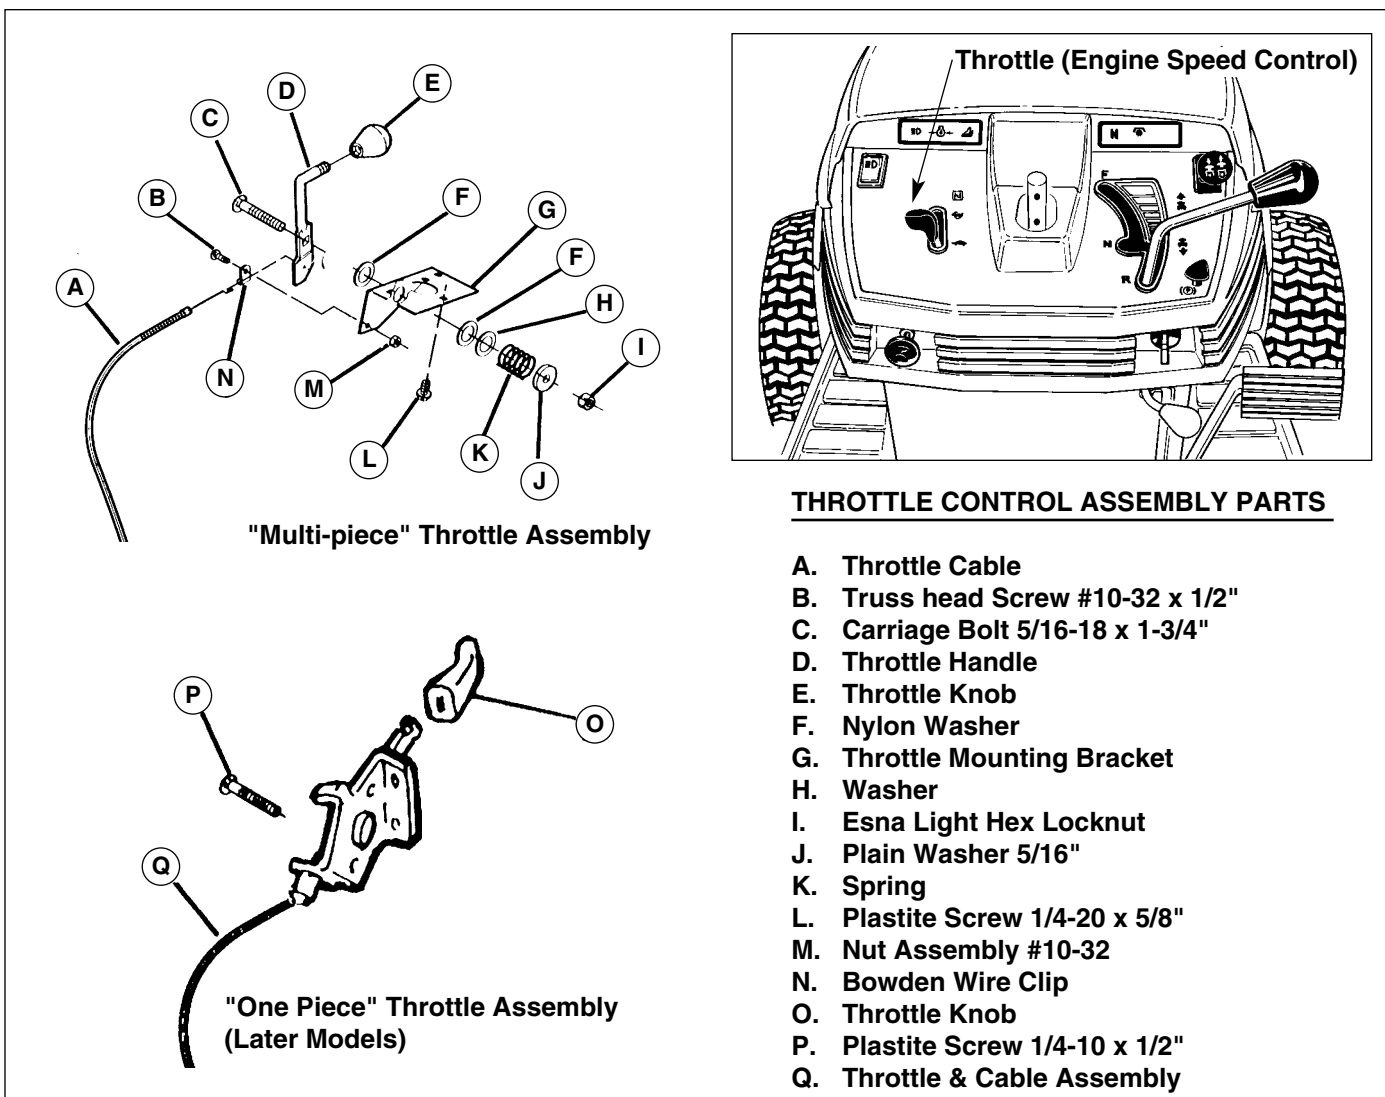

Figure B-33. Throttle Control Assemblies
1. Increase Tension - Tighten the locknut (I, Figure B-33) by turning clockwise.
2. Decrease Tension - Loosen the locknut (I, Figure B-33) by turning counterclockwise.
1. Remove the wire clip securing the throttle cable (N, Figure B-33) to the throttle lever by removing the truss head screw and nut assembly (B & M)
3. Remove the throttle lever from the throttle mounting bracket by unscrewing the hex locknut (I, Figure B-33) from the carriage bolt (C). (Keep the head of the carriage bolt against the throttle lever to keep the bolt from turning while the locknut is being removed.)
5. Check the throttle lever mounting bracket (G, Figure B-33) for wear or damage. Remove and replace if necessary by unscrewing the three plastite screws securing the bracket to the underside of the dashboard.
6. Reassemble parts in reverse order of disassembly, using care to position the nylon washers on both sides of the throttle lever mounting bracket, and the metal washers on both sides of the spring, as shown in Figure B-33.
2. Unscrew the plastite screws (P, Figure B-33) securing the one-piece throttle assembly (Q) to the underside of the dashboard, and remove the one-piece throttle/cable assembly.